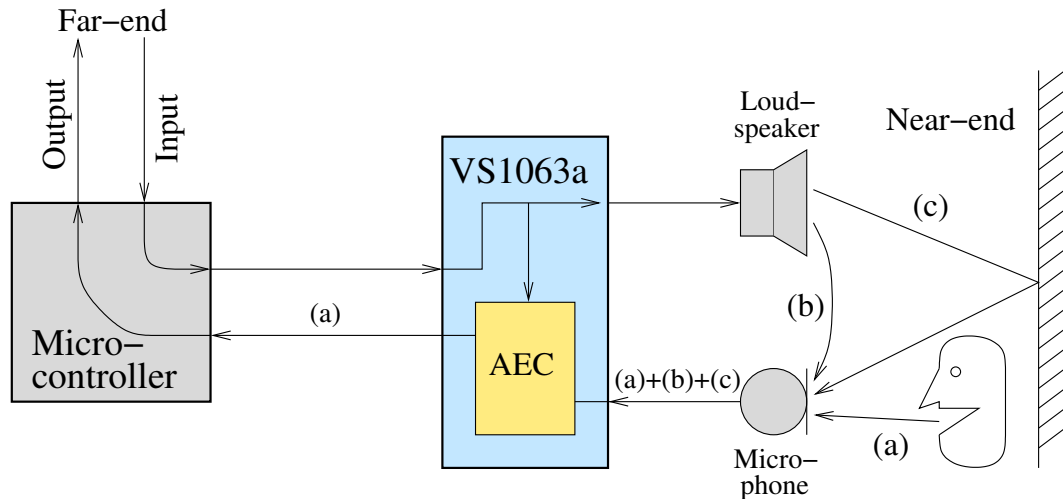

Figure 1: Speaker phone.
A speaker phone application is a system which includes a loudspeaker and a microphone, as presented in Figure 1. The loudspeaker is used to present the sound from a far-end source, and the microphone is used to pick up the signal from a near-end source (a).
For testing and tuning VS1063a AEC you will need a VS1063a system capable of the functionality as shown in Figure 1 on page 4. For best tuning, you will need to be able to insert a 30-second test signal to the Far-end Input while recording from the Far-end Output.
- Microphone which is always at its linear range with the the voices excited by echo signals (b) and (c). User signal (a) may occasionally overflow the microphone input. See Figure 1 on Page 4 for what signals (a), (b), and (c) are.